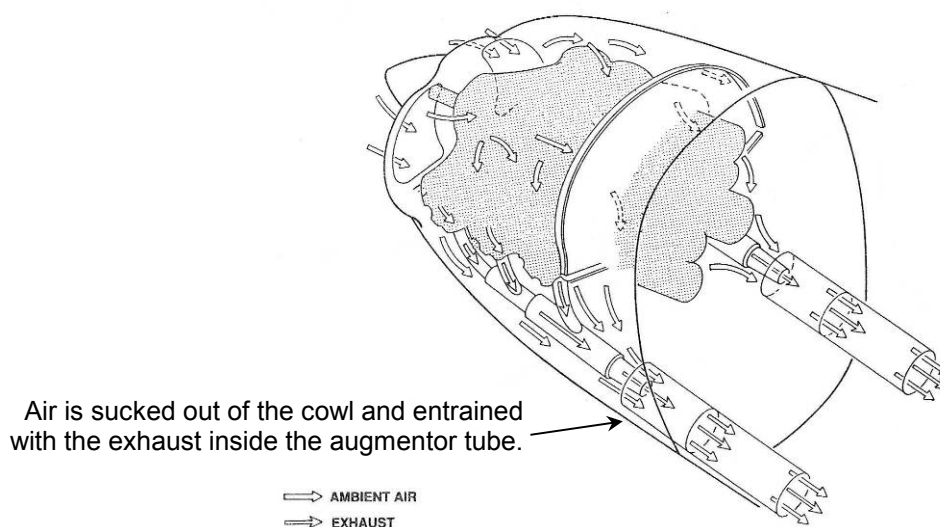

Figure 62. Augmentor Exhaust System
- Augmentor type exhausts (Figure 62) can also be used to suck air out of the cowlings.
- For amphibian or seaplane aircraft using a pusher engine installation the methods outlined above can use the propeller to suck air out of the cowls, but ultimately the effect is limited and can conflict with cooling requirements in other modes of flight. For these installations some form of active venting for the cowls – such as flaps, fans or an augmentor-type exhaust system (See Figure 62) may be required.